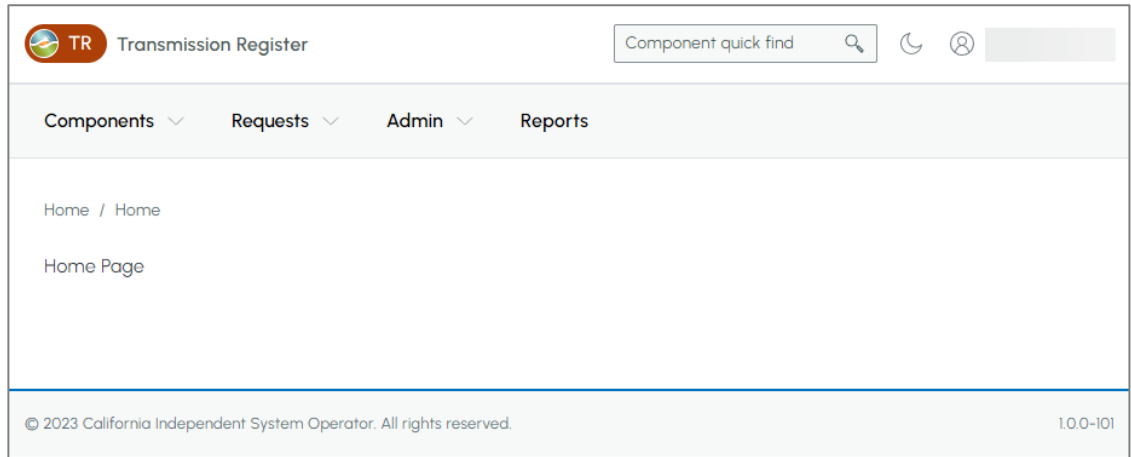
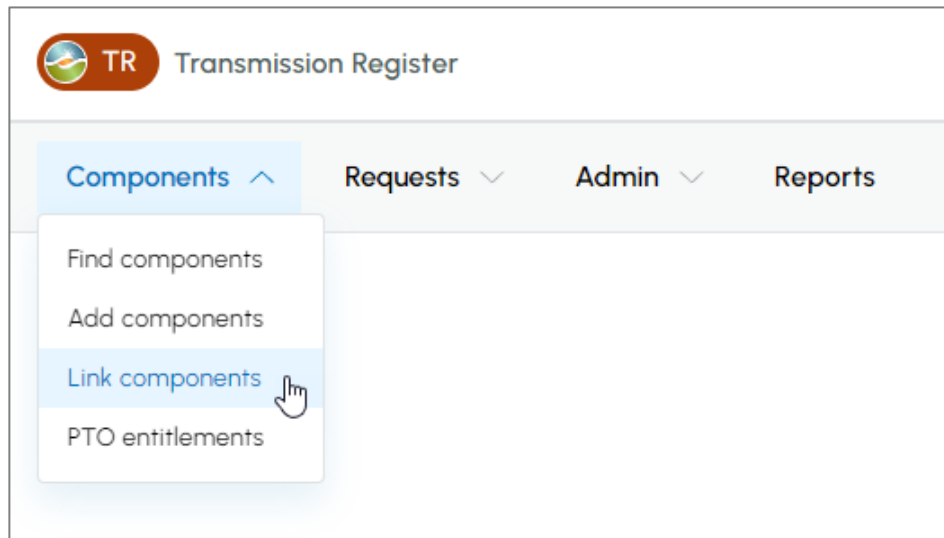

Figure 1. Components Home Page
Figure 2. Link components option
- 1) Go to the TR **Components** Homepage (see Figure 1) and click on the Components tab drop down. Select the **Link components** view (Figure 2).